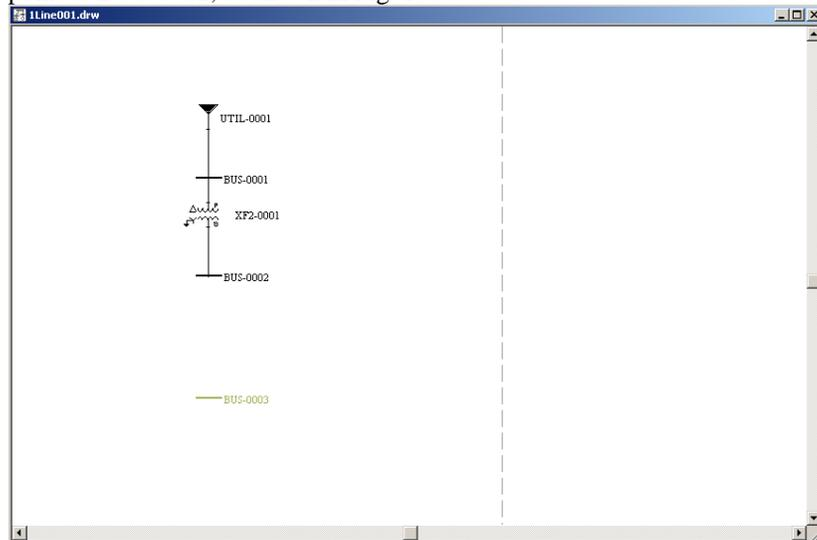

Fig. 10. Connecting a new Transformer between BUS-0001 and BUS-0002.
9. Click the transformer  toolbar icon and connect its top connection point to BUS-0001 and the bottom connection point to BUS-0002, as shown in Fig. 10.